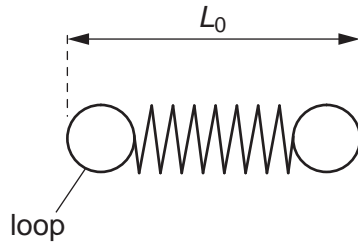

Fig. 1.1
- (a) Measure and record the distance  $L_0$  between the ends of the spring, as shown in Fig. 1.1.